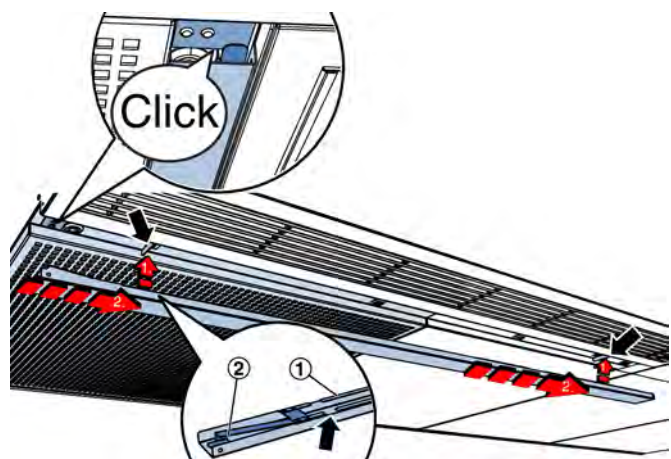

Fig. 83: Attaching the cover strip
2. ▶ Fit the cover strip (Fig. 83 /1) on the inspection access panel in the position shown and push it towards the centre of the device until the locking spring (Fig. 83 /2) audibly clicks into place.